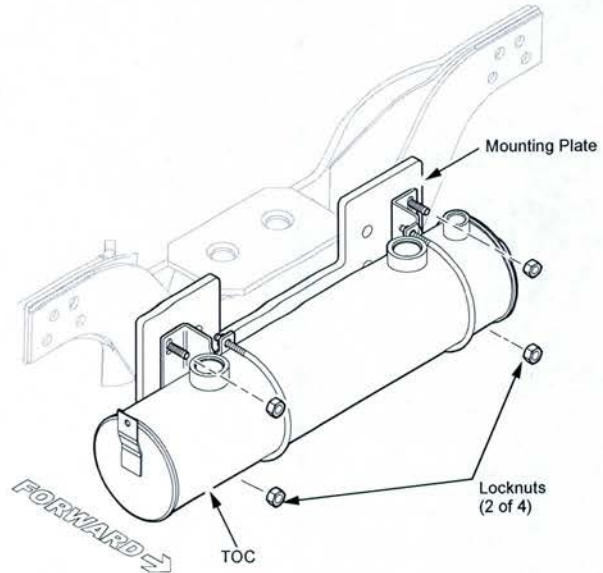

Figure 6
11. Remove the 4 fasteners securing the TOC to the mounting plate and cross member. Discard the fasteners and the mounting plate (see Figure 6).